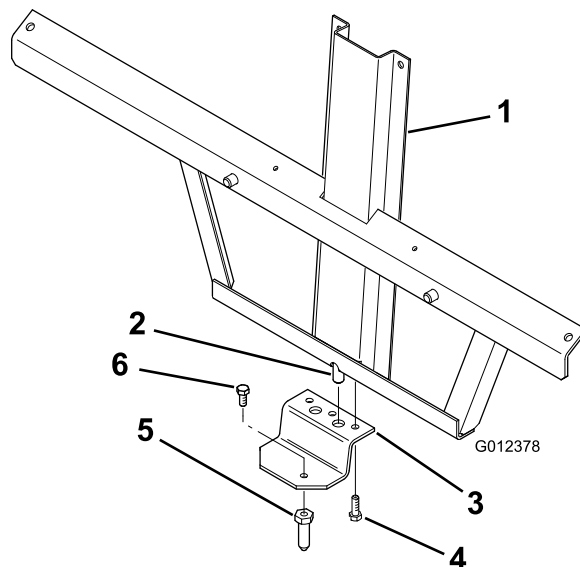

Figure 4
1. Slide the lower extension bracket onto the mounting pin of the mounting frame (Figure 4).
2. Secure the lower extension bracket to the mounting frame using 2 bolts (5/16 x 1 inch) and 2 locknuts (5/16 inch) (Figure 4).
3. Secure the hitch pin in the hole in the lower extension bracket using a bolt (5/16 x 3/4 inch) (Figure 4).